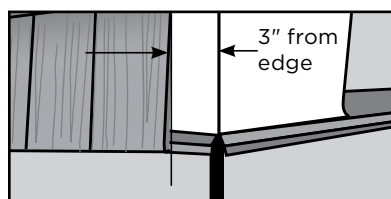

figure 10
1. Install the first Cedar Impressions panel 3" from the edge of the outside wall (*figure 10*).